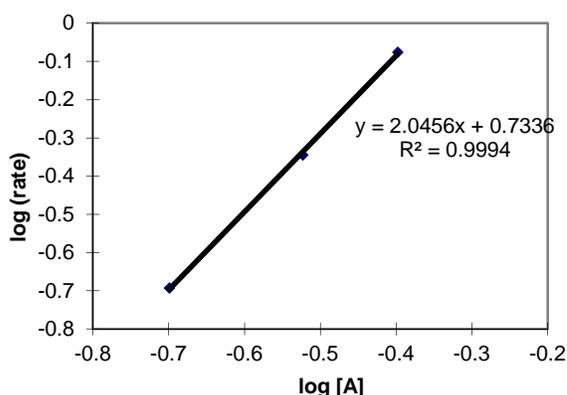

Figure 1: Initial rate determination of the order with respect to A. The plot is the $\log(\text{rate})$ versus $\log[\text{A}]$.
Answer: (1). With $\text{Rate} = k[\text{A}]^x[\text{B}]^y$, to determine “ x ”, the data from experiments 4-6 are used, because $[\text{A}]$ varies while $[\text{B}]$ remains constant in these experiments. A plot of $\log(\text{rate})$ vs. $\log[\text{A}]$ for experiments 4-6 gives a slope of about 2, Figure 1. The uncertainties in the concentrations and rates are around 2%. Therefore $x = 2$, within experimental uncertainty.